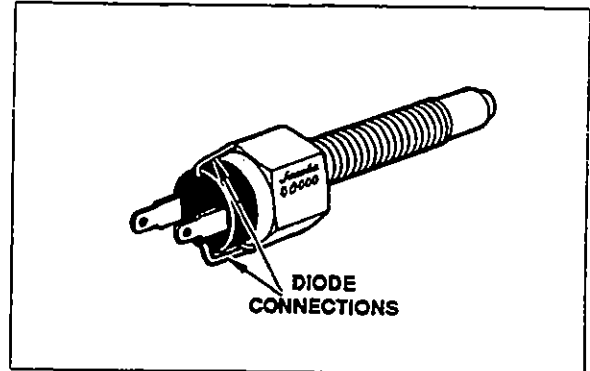

Fig. 1.1.5
5. Current style buffer switches include a two-diode system for switch protection. The two-diode type switch is not polarity sensitive and electrical connections can be made to either terminal (see Fig. 1.1.5).